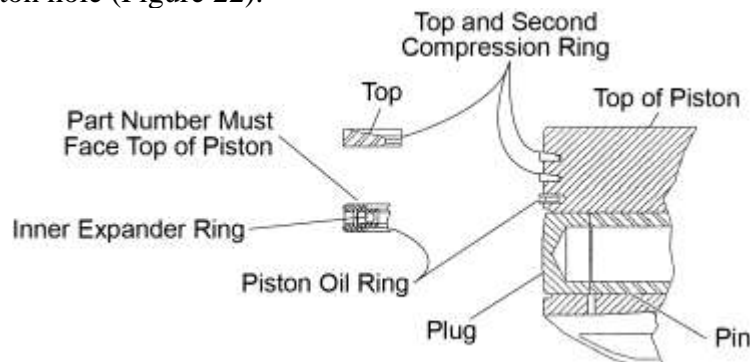

Figure 22
- A. Start from the top down, use the commercially available piston ring expander tool to remove the two top compression rings, the oil regulating piston expander ring, and the inner expander ring (Figure 22).
- C. With the piston top side up on a workbench, install the inner expander ring in the first groove above the piston hole (Figure 22).
- E. Install the two top compression rings (Figure 22) with the word "Top" toward the top of the piston in the remaining top grooves.